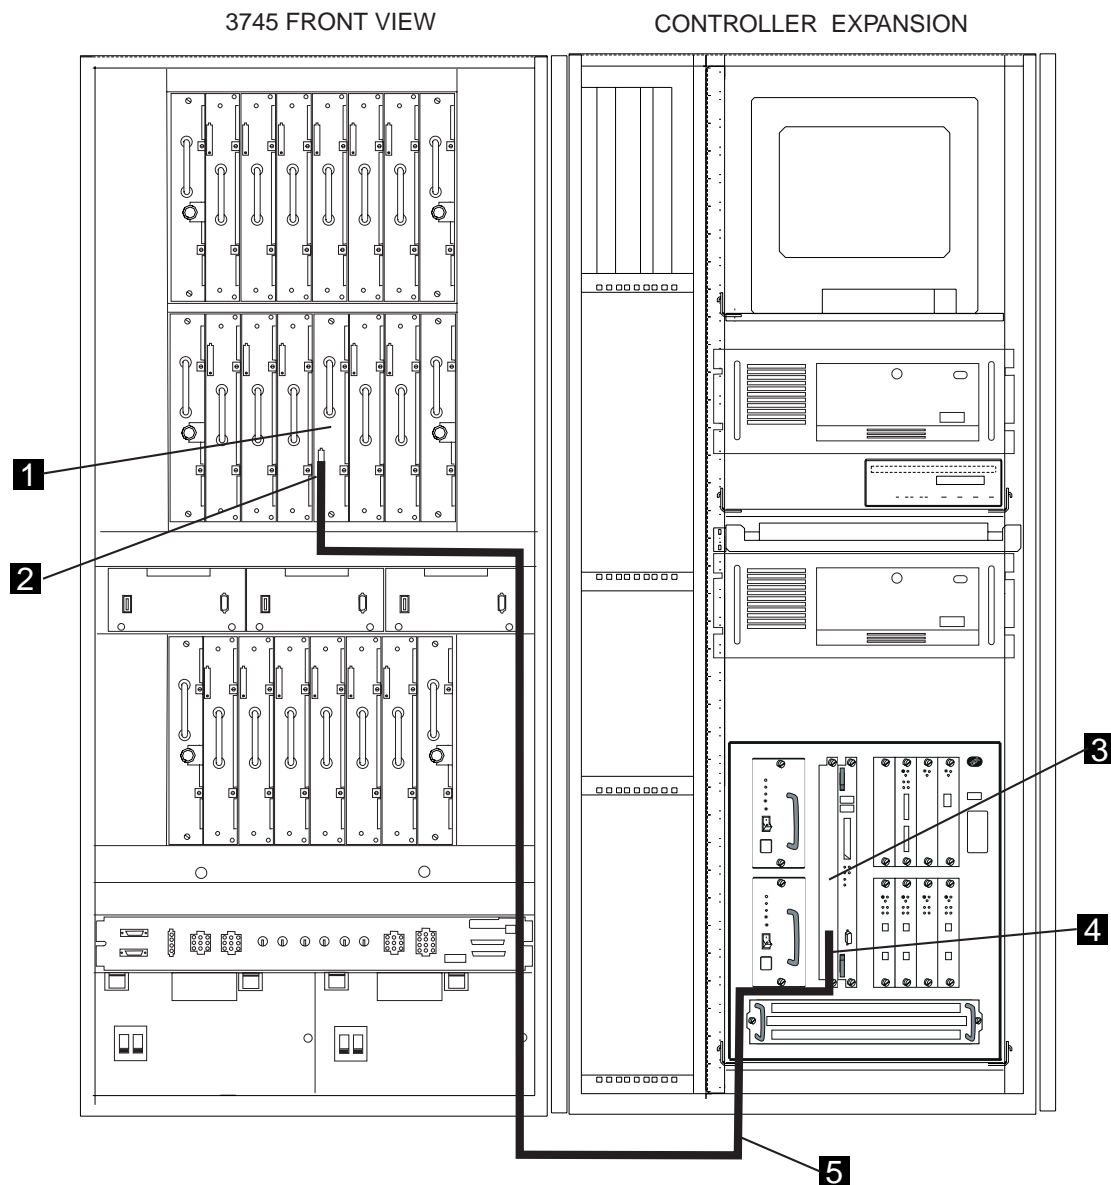

Figure 5. Connecting the MAE SAC Card to the 3746-9X0 SIE Cassette
- ___ 1. Refer to Figure 5 on page 11, and route the cable PN 02L2764 from the MAE to the 3746-9X0 frame.